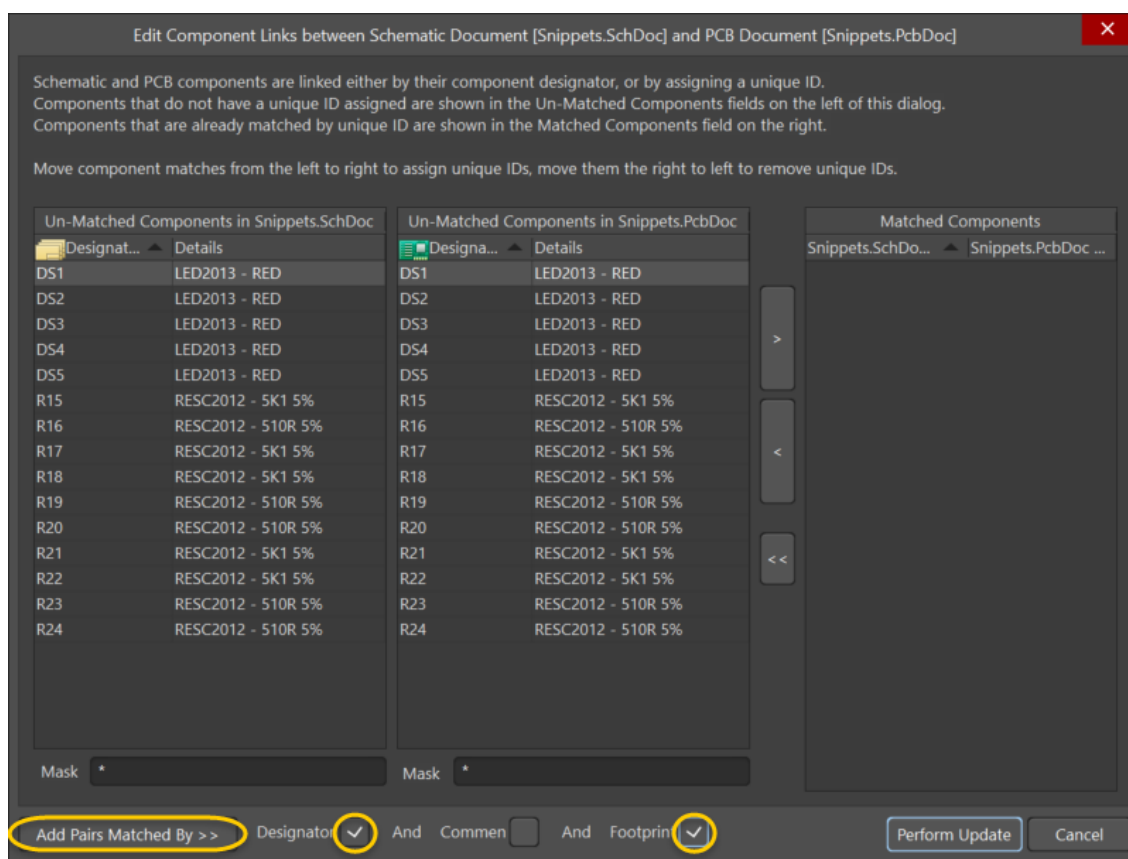

Figure 16. Component Links Menu
- a) In the *Edit Component Links* dialog menu, make sure both the **Designator** and **Footprint** checkboxes are enabled as shown in Figure 16.